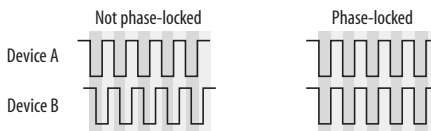

Figure 3-15: When transferring audio, two devices must have phase-locked audio clocks to prevent clicks, pops or other artifacts.
- Synchronizing the 828mk3 with other digital audio devices so that their digital audio clocks are *phase-locked* (as shown in Figure 3-15)